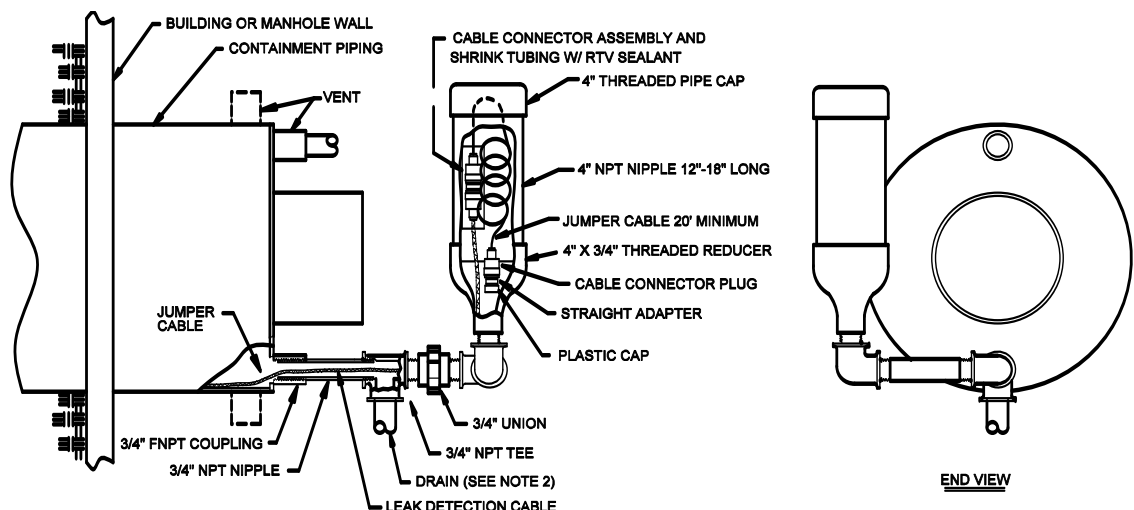

Figure 11
15. At least 50' of jumper cable must be installed from the PAL-AT alarm unit before connection to sensor cable. Refer to Table 1 (see Section 3) for jumper that should be installed at the very end of a sensing string in an enclosure (see Figure 11). A cable connector must be attached to terminate the end of the jumper cable. Install the red plastic cap supplied with the PAL-AT, over the connector to keep it clean. The termination of the sensing string should be accessible for future maintenance.